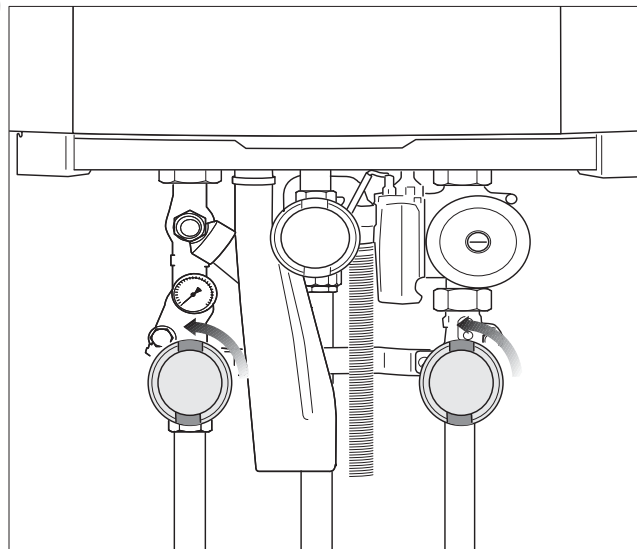

fig. 79 Opening the isolating valves (here: open position)
- Open the heating flow and return isolating valves on the pump group (fig. 79) (open position: parallel to the pipe).